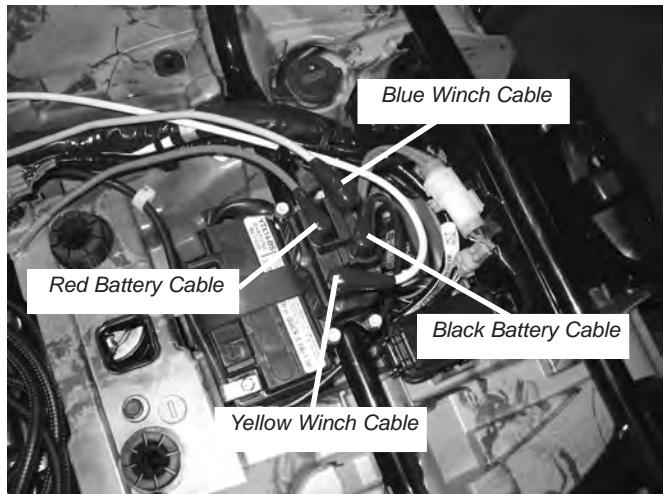

Figure 35 Electrical Cable Connections - Contactor
- c. Place the four remaining cable boots over the four electrical cables. Connect the blue, yellow, red, and black electrical cables to the corresponding contactor terminals, figure 35. Torque the terminal nuts on the contactor to 4.5 N·m (40 in-lb). Do not over tighten. Place the rubber boots into position over the terminals. Connect the green and black switch leads to the contactor at this time.